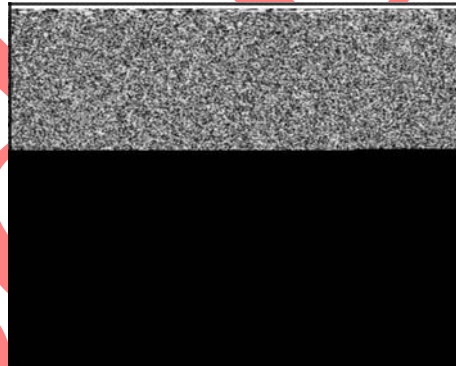

Figure 22
1. Remove oil level plug (C, Figure 22) and vent plug (A).
3. Fill gear case just to the point of overflowing at the oil level hole (B).